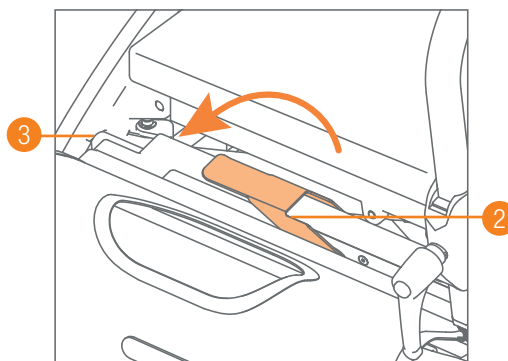

Figure 32: Locking the transport chair package.
- d. Push the red handle back down without force to lock the transport chair package. The locking bolts will be released so that the package is properly secured (**Figure 32**). You can now walk with the Rollz Motion walker, carrying along the transport chair package.